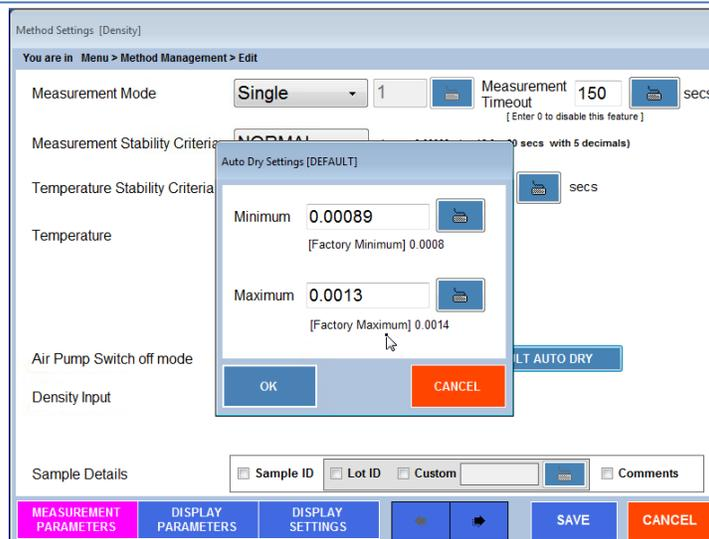

Figure 6-6 - Auto Dry Feature
- 1) **Auto** – The instrument continuously measures the density as the VideoView™ is drying. Once the dry is that of dry air the pump will automatically turn itself off. See Figure 6-6 on the next page for guidance on how to set turn-off conditions.